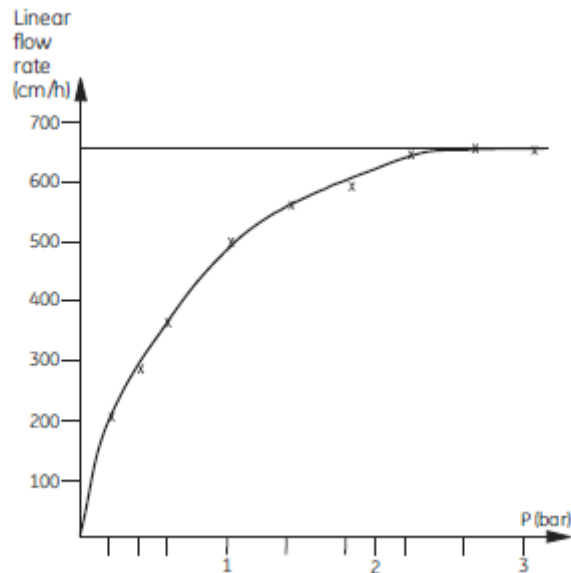

Fig.1. A typical pressure/flow rate curves for **DEAE XPure Agarose Resin**
**DEAE XPure Agarose Resin** is part of Ion exchange Resin which is widely used in biomedical and bioengineering for separation and purification of proteins, nucleic acids and polypeptides. The base matrix **DEAE XPure Agarose Resin** is 6% highly cross-linked agarose which gives the ion exchangers high chemical and physical stability. They are developed and supported for process scale chromatography. The characteristics such as capacity, elution behavior and pressure/flow rate are unaffected by the solutions commonly used in process chromatography and cleaning procedures, for details see table under each respective ion exchanger. Fig.1 is the pressure/flow rate curves of the matrix.